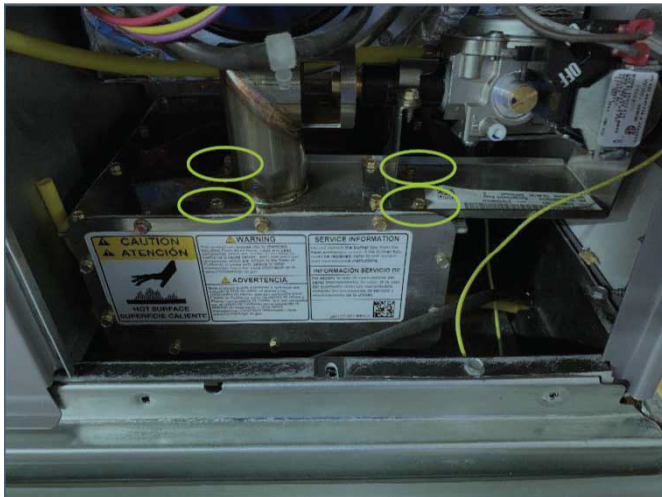
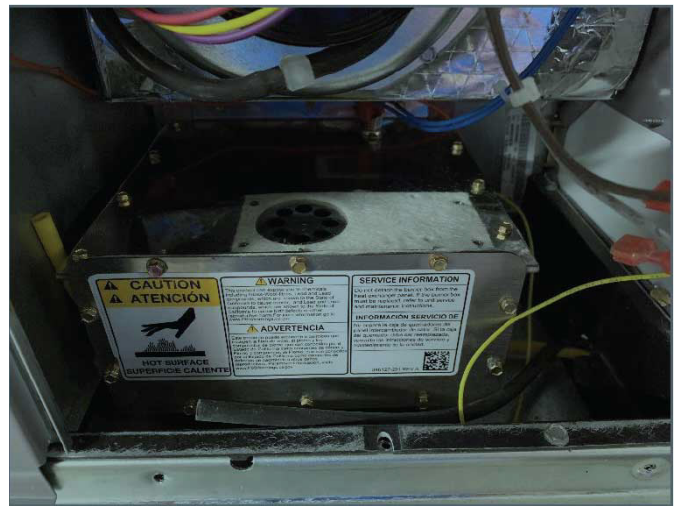

Fig. 2 – Removing Bracket Screws
Fig. 3 – Bracket Removed
3. Remove the bracket holding the gas valve off the burner box by removing the 4 screws. See Fig. 2.
3. Remove the bracket holding the gas valve off the Burner Box by removing the 4 screws. See Fig. 2 and Fig. 3.